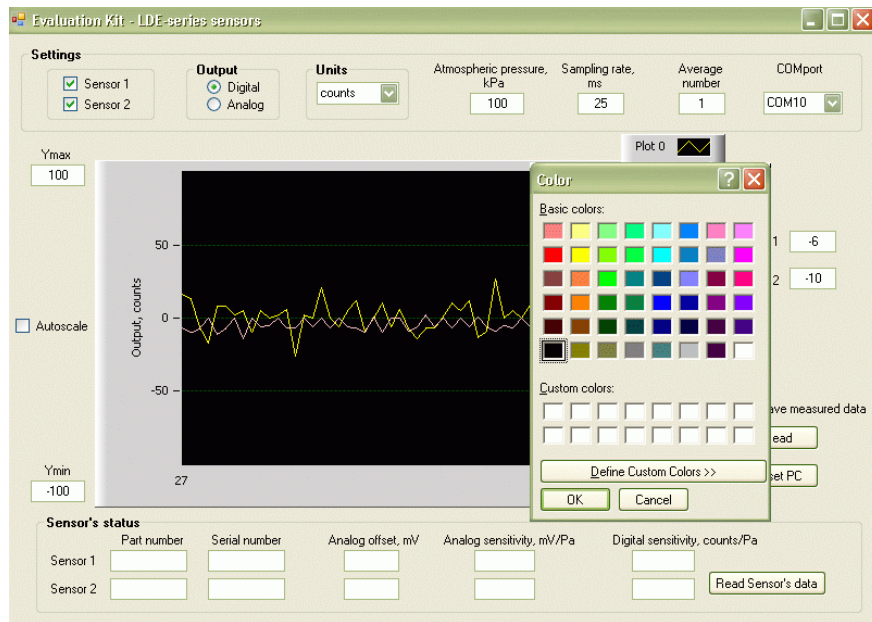

Figure 12: Selecting the signal trace color.
- The oscilloscope window is used to visualize the output of the sensor(s). To change the color of the signal trace, click on the trace symbol (*Plot 0* or *Plot 1*) and choose any color from the palette, as shown in Figure 12.